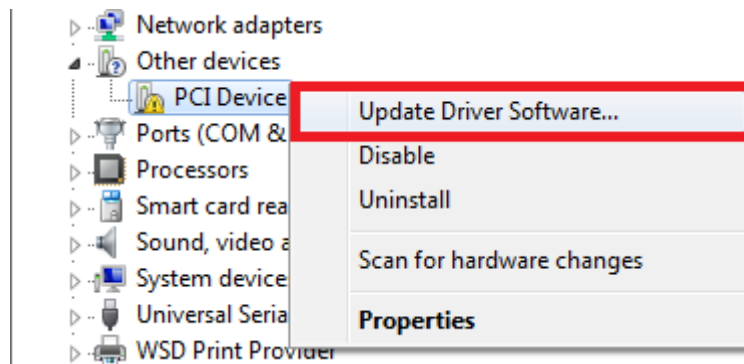

Figure 63 Update driver software
6. When LimeSDR-QPCIe board is plugged in, in **Device Manager** it appears as **PCI Device** under **Other devices**. Right click on the **PCI device** and select **Update Driver Software** Figure 63.